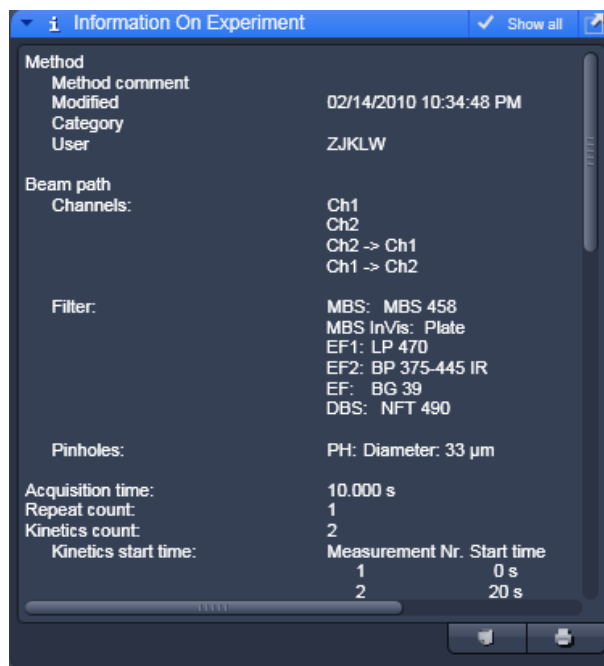

Fig. 332 Information on experiment tool
- Click on the **Information on Experiment** tab to display a detailed description of the highlighted method including name, comments, configurations and parameter settings (meta data) (Fig. 332). Click a second time to close the information window. The scroll bar can be used to view the complete information.